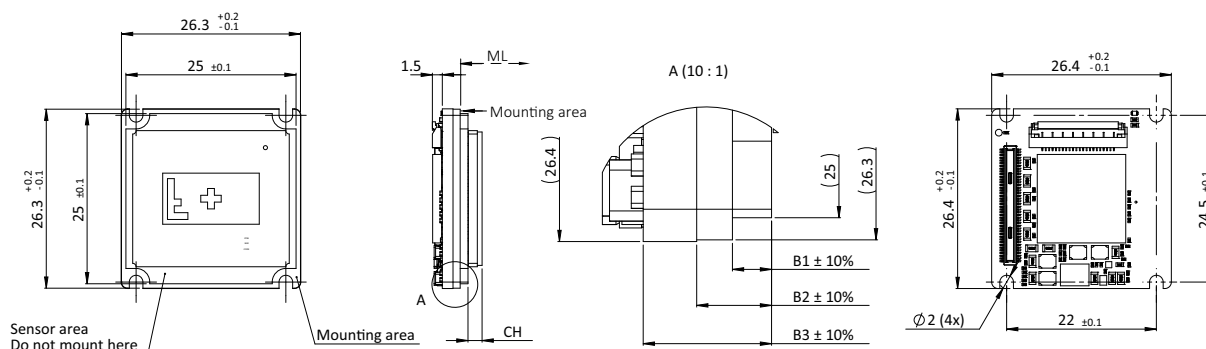

Figure 73: Bare Board (standard Alvium) dimensions
Dimensions that are common between different models are shown in Figure 73, model specific dimensions are listed in Table 99. **Mechanical length (ML)** defines the mechanical distance from the mounting area to the lens mount front flange, without optical filter. **Components height (CH)** relates to the electronic components with maximum height, sometimes the sensor.